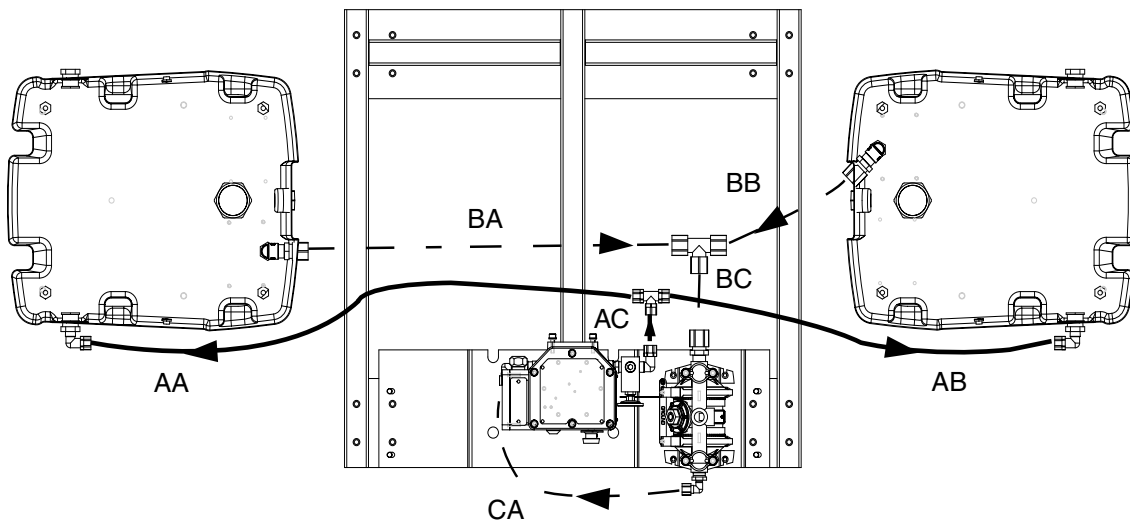

FIG. 2: Fluid schematic for only heating hoppers
See FIG. 2 on page 9 for fluid schematic of heated fluid.
- Heating hoppers only. See FIG. 2 on page 9.